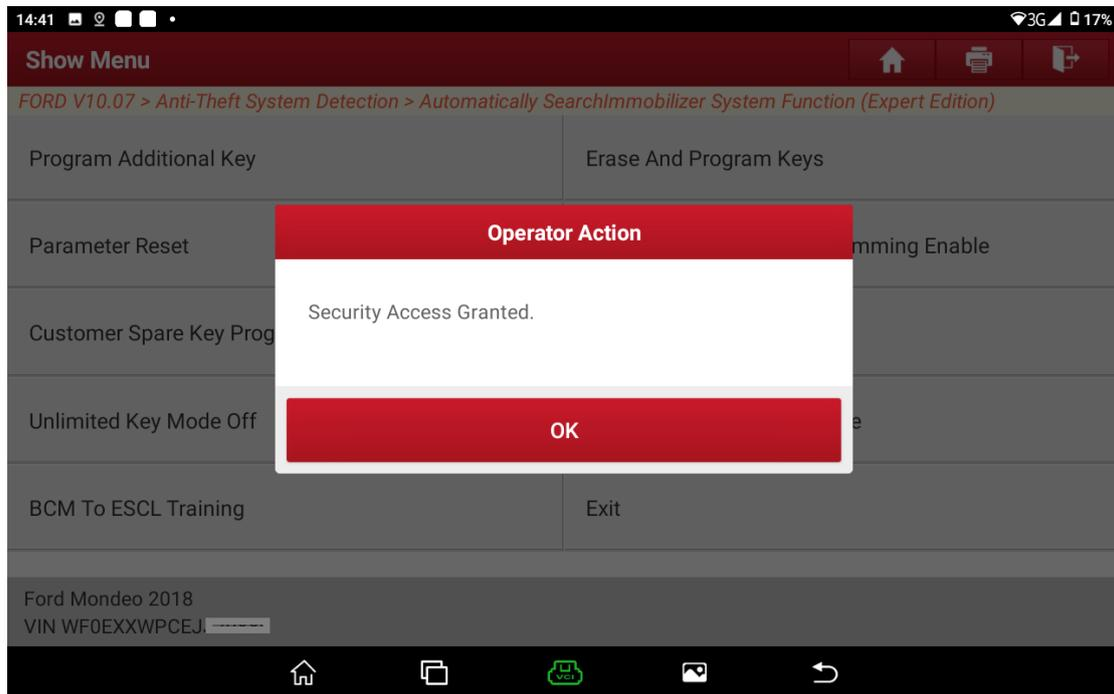

Figure A11
9. Obtain the security access permission. See Figure A11.